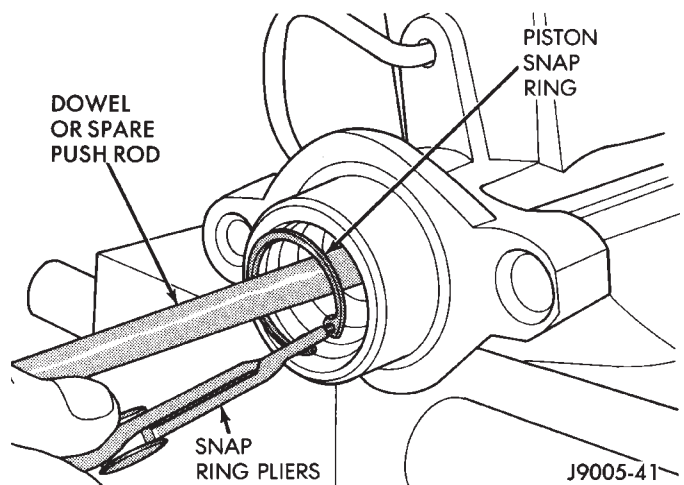

Fig. 2 Removing/Installing Piston Snap Ring
- (4) Press primary piston inward with wood dowel or phillips screwdriver and remove snap ring (Fig. 2).